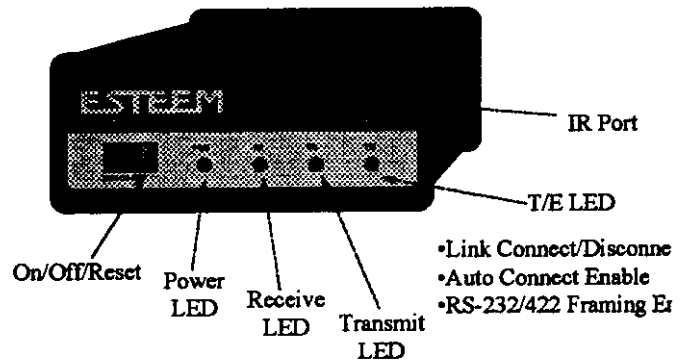

Figure 4: ESTEem Front Panel
4. The Description of ESTEem Front Panel section will show the location and description of the four lights on the front of all ESTEem modems (Figure 4). For example, place the cursor dot over the PWR location and press ENTER. A small dialog on the meaning of the PWR light indicator will be displayed. Familiarize yourself with the meaning of all the display lights on the ESTEem and press ESC to continue.